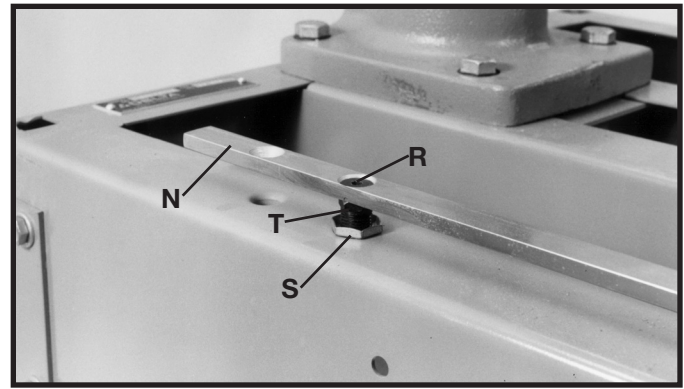

Fig. 23
7. If an adjustment is necessary, remove screw (R) Fig. 23, loosen locknut (S) and turn leveling screw (T) to raise or lower table mounting bracket (N). When adjustment is complete, tighten locknut (S) and replace screw (R).